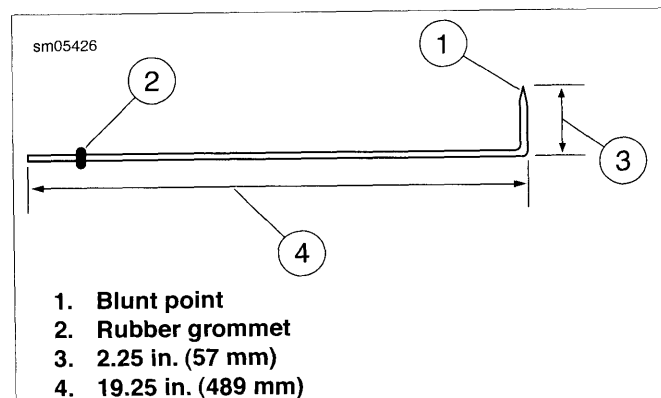

Figure 1-61. Wheel Alignment Tool: XL Models
2. **For XL Models:** See Figure 1-61. Fabricate an alignment tool using a piece of 1/8-in. (3.175 mm) diameter aluminum welding rod 21.5 in. (546 mm) long. Grind one end down to a blunt point. Use pliers to bend rod at a 90 degree angle, 2.25 in. (57 mm) from the blunt point, as shown. Place a snug-fitting rubber grommet (2) on rod to act as a slide measurement indicator.